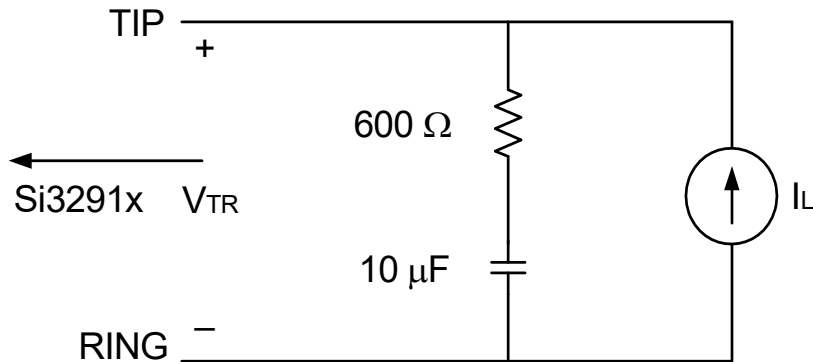

Figure 1. Test Circuit for Loop Characteristics
1. Measured at TIP and RING with 600 Ω termination at 1 kHz, as shown in Figure 1 on page 12.
For Figures 1–5, all filter plots apply to a sample rate of $F_s = 8$ kHz.